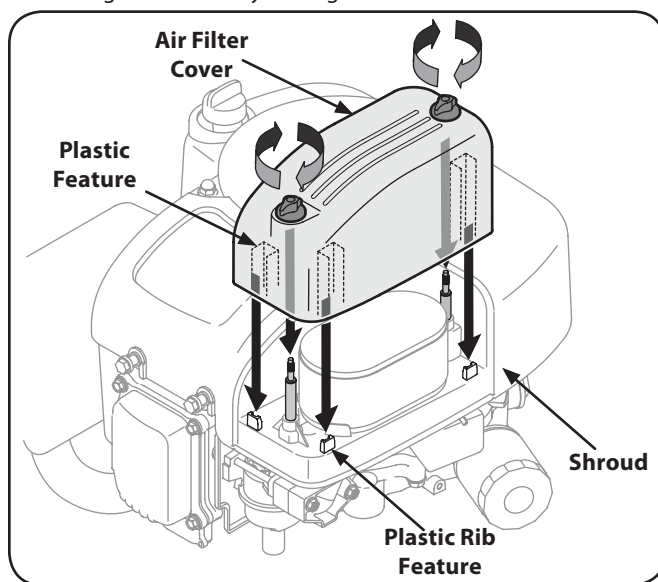

Figure 6-8
6. Attach the air filter cover, making sure to align plastic rib features on the shroud to the plastic features on the air filter cover. See Fig. 6-8. Turn thumb screws clockwise until snug. Check for any misalignment.